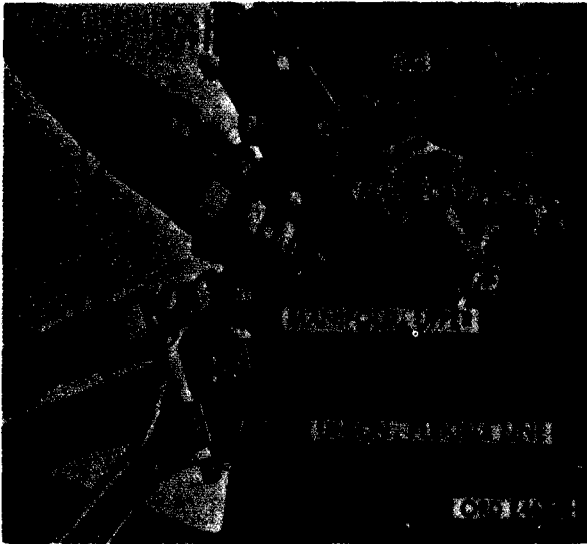
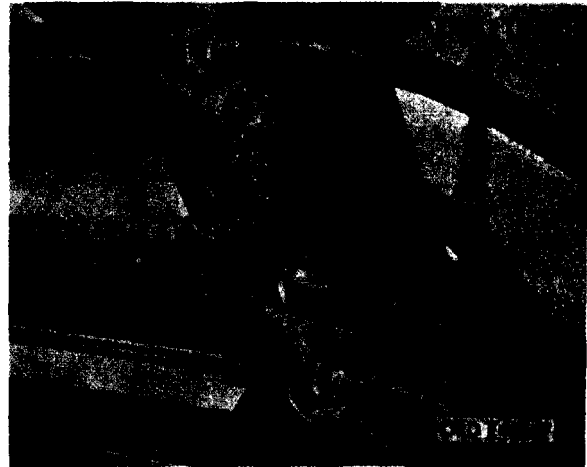

Figure 76. Disconnecting flexible lines at manifolds.
Figure 78. Location of flexible lines at hydraulic cylinders.
- (4) *Remove control valve assembly and manifolds.*
- (a) Disconnect the four flexible lines (fig. 76) at flexible line unions in upper and lower manifold.
- (5) Remove hydraulic cylinders.
- (a) Disconnect the four flexible lines from fittings at ends of hydraulic cylinders (fig. 78).
- (5) Install flexible lines at manifold. Install four flexible lines to hydraulic cylinders (fig. 78). Install opposite end of flexible lines to upper and lower manifolds at control valve assemblies as shown in figure 76.
- (6) Install hoist assembly on the vehicle. Refer to paragraph 74.